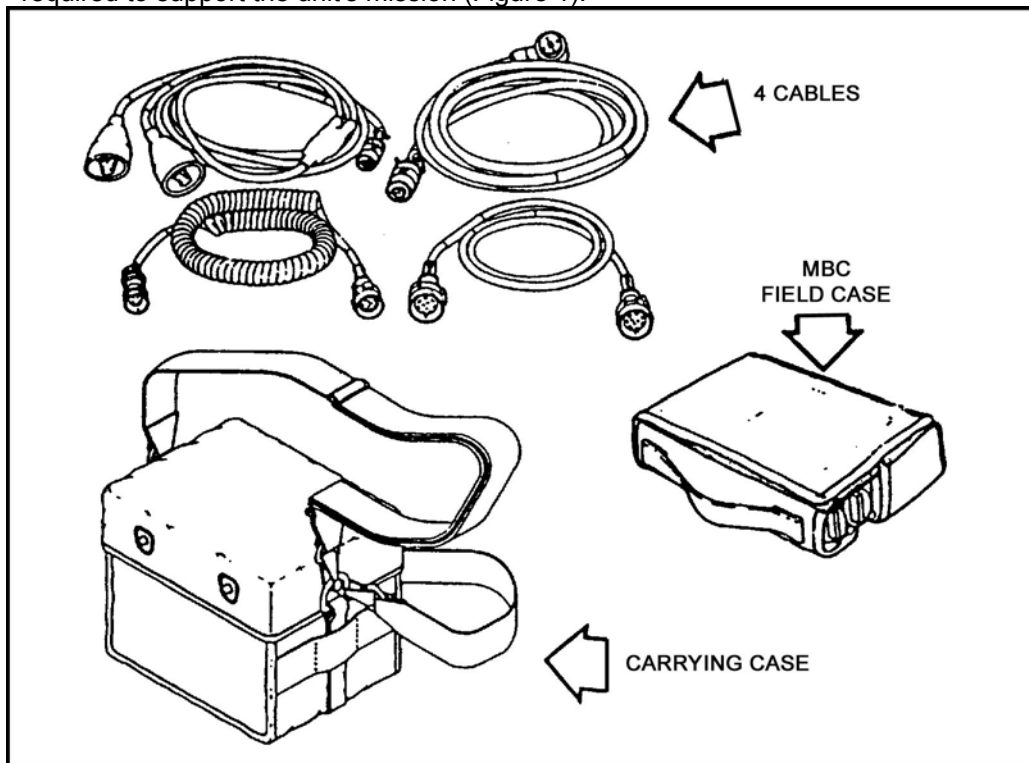

Figure 1. MBC components.
- a. Inspect the MBC for completeness. All cables and accessories should be present that are required to support the unit's mission (Figure 1).